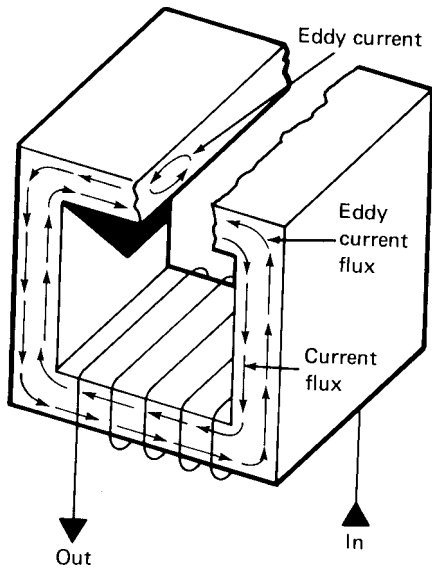
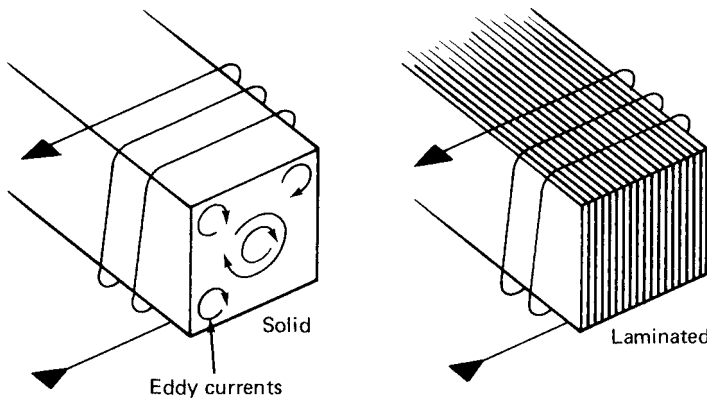

Figure 8-20 Eddy currents in a transformer core.
Figure 8-21 Solid core versus laminated core to eliminate eddy currents.
3. *Eddy currents:* These are very small but create losses in the transformer core. They are small currents created in the core when the magnetic fields change (see Fig. 8-20). Eddy currents generate heat. They flow in a direction opposite to the current that induced them. The effect is to resist the flow of current in the core. Eddy currents can be minimized by using laminations. Laminating is the building of an object through the use of several layers of material. When this method is used, each lamination is varnished. Varnishing insulates the layers from each other. This increases resistance to eddy currents. Figure 8-21 shows how a solid core has high eddy current losses and a laminated core practically eliminates current losses.